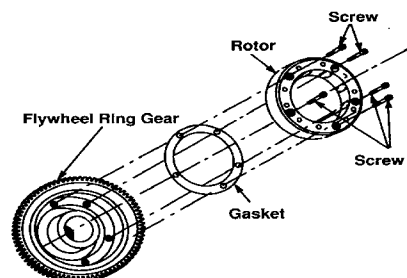

Figure 7-15. Flywheel Exploded View
- 5. Separate alternator permanent magnet rotor from flywheel housing by removing five Allen screws and gasket, Fig. 7-15.